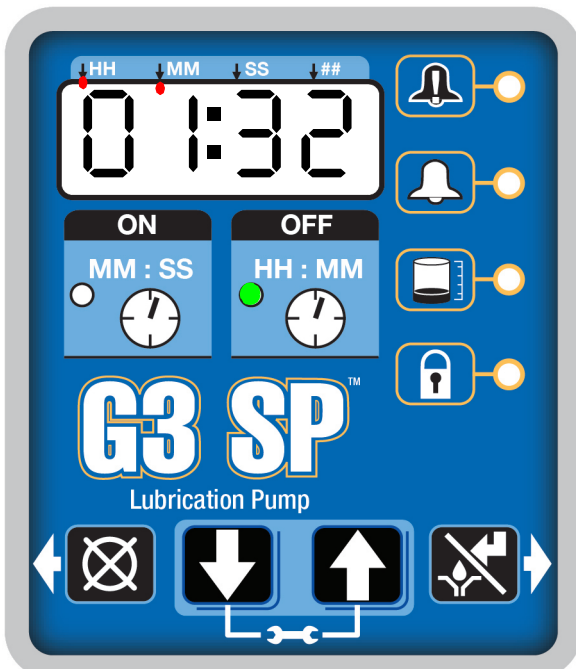

FIG. 29
1. After setup is complete, the G3 automatically begins to run the OFF Time sequence (FIG. 29).
The example shown in FIG. 29 shows an OFF Time of 1 hour and 32 minutes before the lubrication cycle begins with A8 off.
- When the Cycle count reaches zero, the pump shuts off again and the system again runs OFF Time cycle and the OFF Time LED is now again illuminated (FIG. 29).